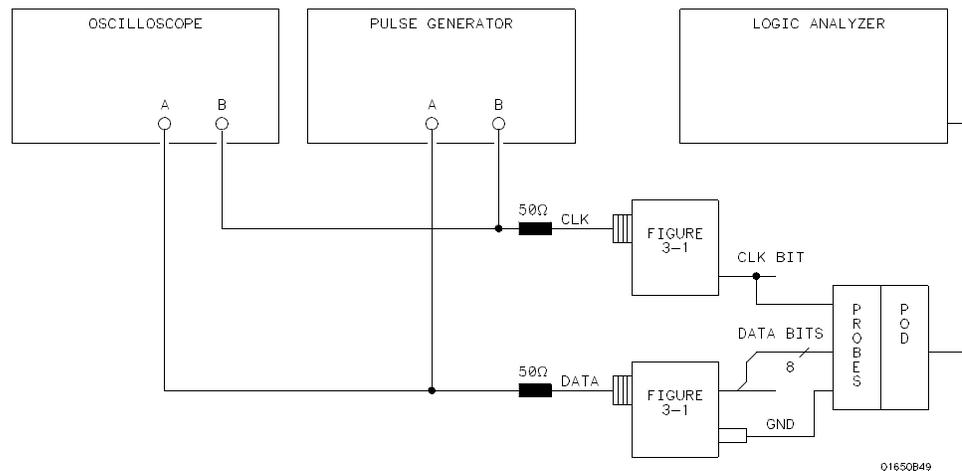

Figure 3-18. Setup for Data Test 4
- Connect the HP 1650B\51B and test equipment as in figure 3-18. In order to most accurately measure the amplitude of the test signals from the pulse generator, high impedance scope probes should be used to look at the signal levels at the output of the pulse generator.